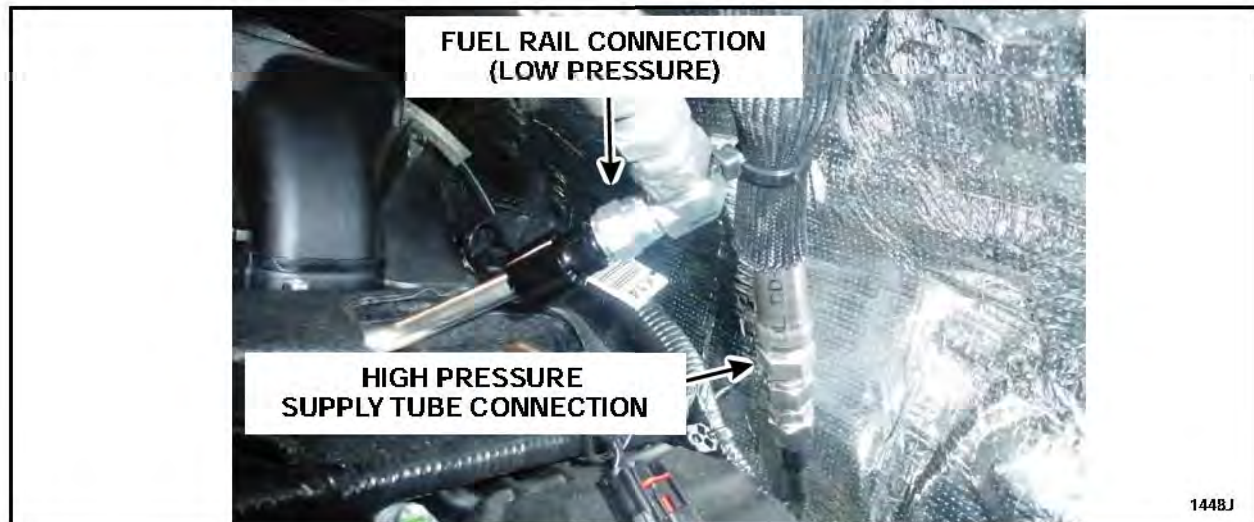

FIGURE 6
3. Disconnect the high pressure and low pressure lines from the vehicle, leaving the hoses connected to the gaseous fuel pressure regulator. See Figure 6.
4. Using suitable covers, cap the ends of the hoses, the high pressure supply tube connection, and the fuel rail connection to prevent debris from entering the gaseous fuel system. See Figure 6.
3. Route the low pressure and high pressure hoses to their appropriate locations, then connect the high pressure and low pressure lines to the vehicle. See Figure 6.